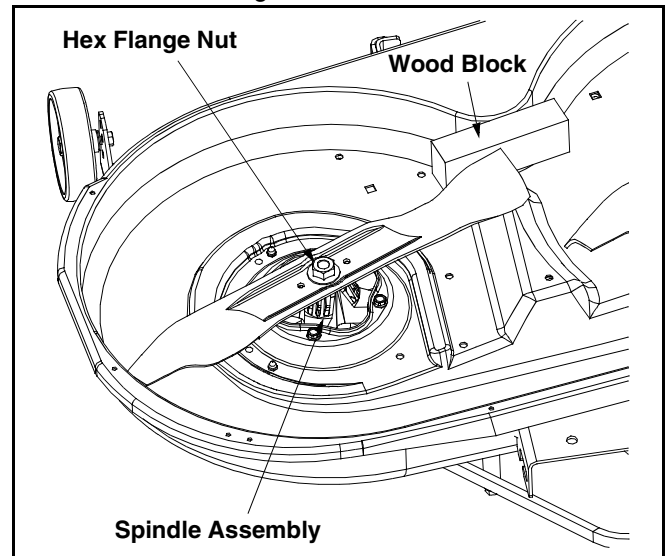

Figure 14
- Place a block of wood between the center deck housing baffle and the cutting blade to act as a stabilizer. See Figure 14.
- Use a 15/16" wrench to remove the hex flange nut that secures the blade to the spindle assembly. See Figure 14.